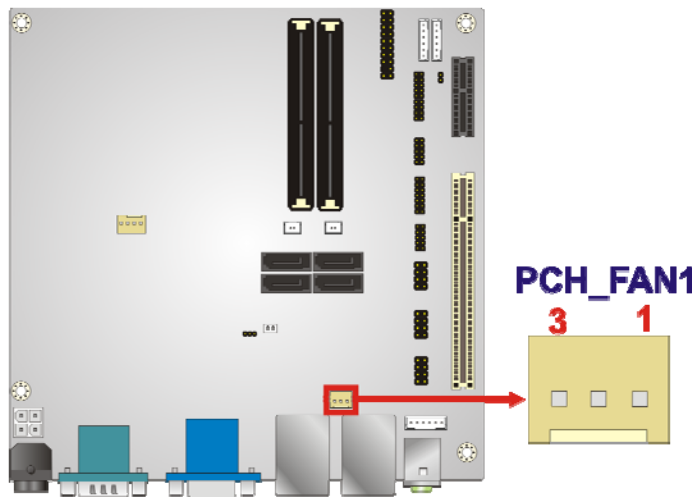

Figure 3-9: PCH Fan Connector Location
- CN Location:** See **Figure 3-9**